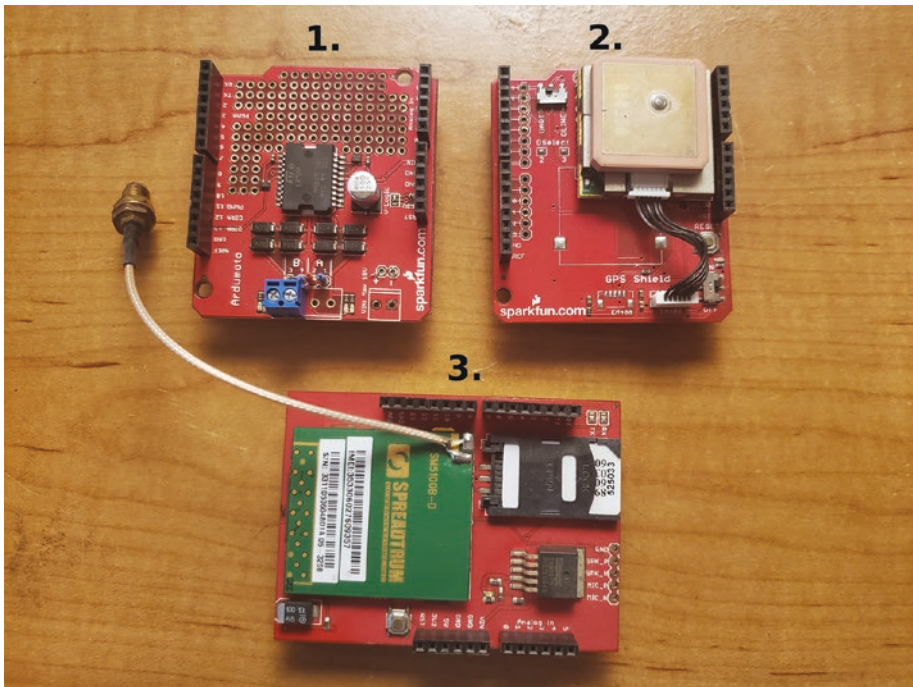

Figure 1-4. 1. Motor shield, 2. GPS shield, 3. GSM shield
- Arduino shields: Unlike the first edition of this book, we will not focus too much on shields; they are very useful and can make validating firmware a breeze, but this edition will focus on creating a couple of shields for the MEGA 2560 Pro. See Figure 1-4 for a couple of examples of shields, and underneath that picture, you will find a few descriptions of useful shields for this book. Please note that it is not necessary to purchase these shields, but they are still valuable tools.